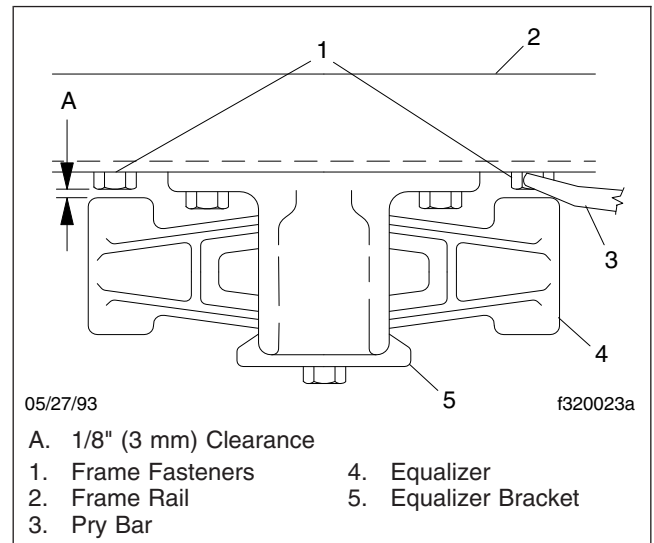

Fig. 5, Top View of the Equalizer
7. With the vehicle unloaded, attempt to move the equalizer side to side, using a pry bar between the equalizer and frame rail. Apply hand pressure only. See **Fig. 5**. If clearance between the equalizer assembly and any frame component or fastener is less than 1/8 inch (3 mm), replace the